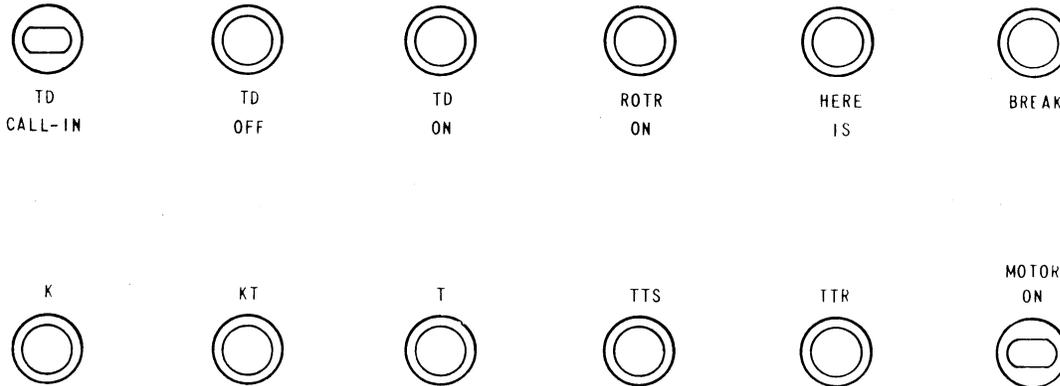
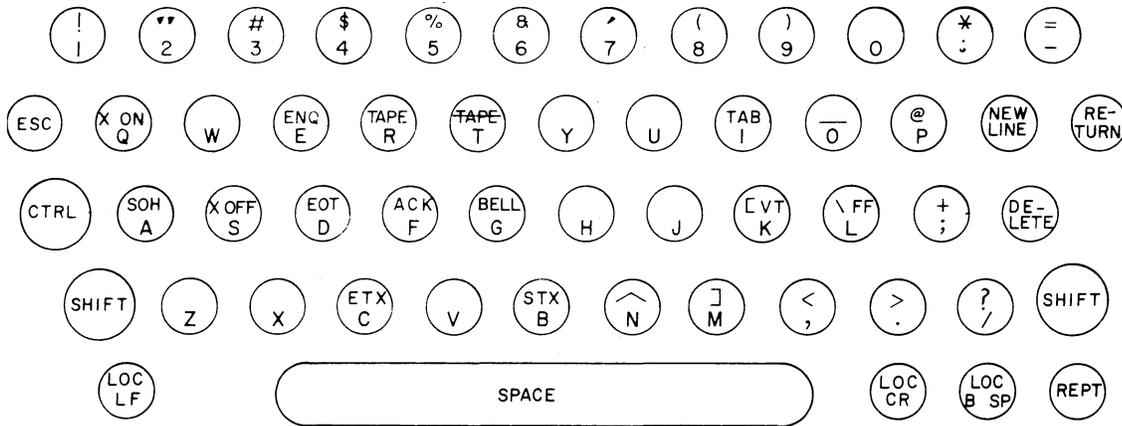

Figure 5 - Model 35 ASR Teletypewriter Control Panel
Figure 6 - 35 Station Keyboard Arrangement
2.12 A control panel to the left of the keyboard provides additional controls for the ASR set, including the mode keys T, KT, K, HERE IS, BREAK, etc. The control panel is shown in Figure 5. The keyboard arrangement is shown in Figure 6.